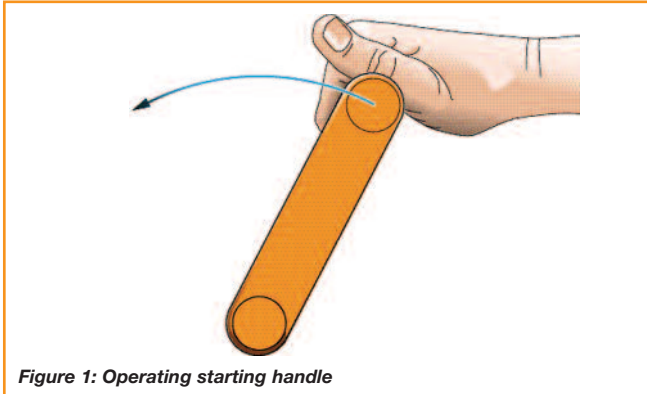

Figure 1: Operating starting handle
- Keep the thumb and fingers together on the handle in case of kickback (see Figure 1).